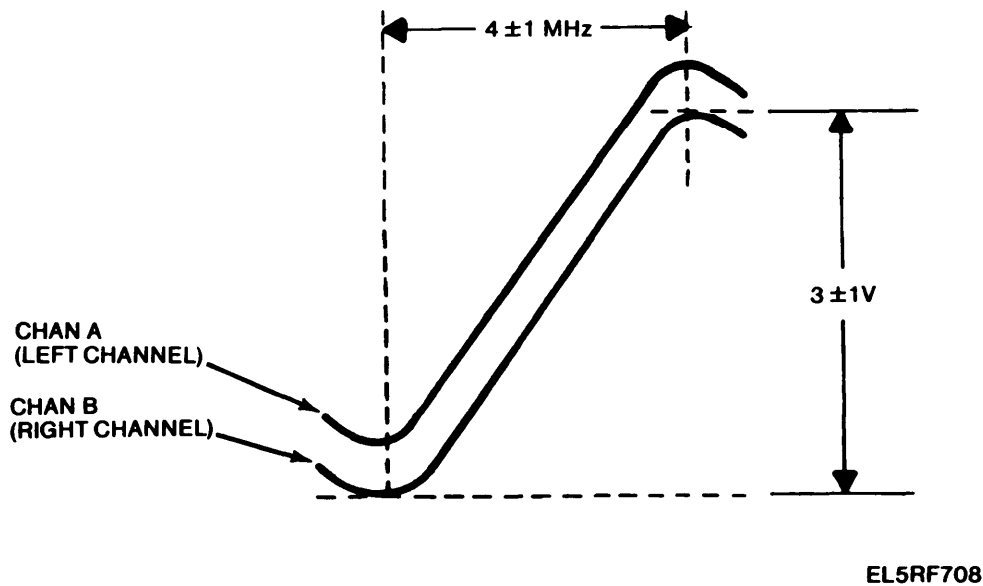

Figure 3-41. Electrical Frequency Limiter-Discriminator 1RE1A4, Channel A and B Waveform Display.
(3) Set the oscilloscope HORIZ and VERT controls to obtain a display similar to the display shown in figure 3-41.
(4) The CHAN B (right channel) waveform displayed on the oscilloscope should be an S-shaped curve with frequency peak to peak excursion and linearity similar to the CHAN A (left channel) S-shaped curve. The amplitude between peaks should be 3 ± 1 volt P-P (figure 3-41). If necessary adjust R2, C1, C2 and C3 to meet above requirements.
(6) Adjust signal generator output level and test facility AT1 as necessary to display a 30 MHz marker on the CHAN B (right oscilloscope channel) S-shaped curve.
(7) Adjust the signal generator frequency as necessary to determine the frequency peak-to-peak excursion of the CHAN B (right oscilloscope channel) S-shaped curve. It should be 4 ± 1 MHz (figure 3-41).
(11) Adjust the oscilloscope vertical sensitivity and position controls to align the CHAN A and CHAN B S-shaped curve slopes parallel with each other. Adjust C1, C2 and C3 for best slope match between CHAN A and CHAN B S-shaped curves (figure 3-41).
(12) Repeat steps (8) thru (11) until no further adjust is necessary.